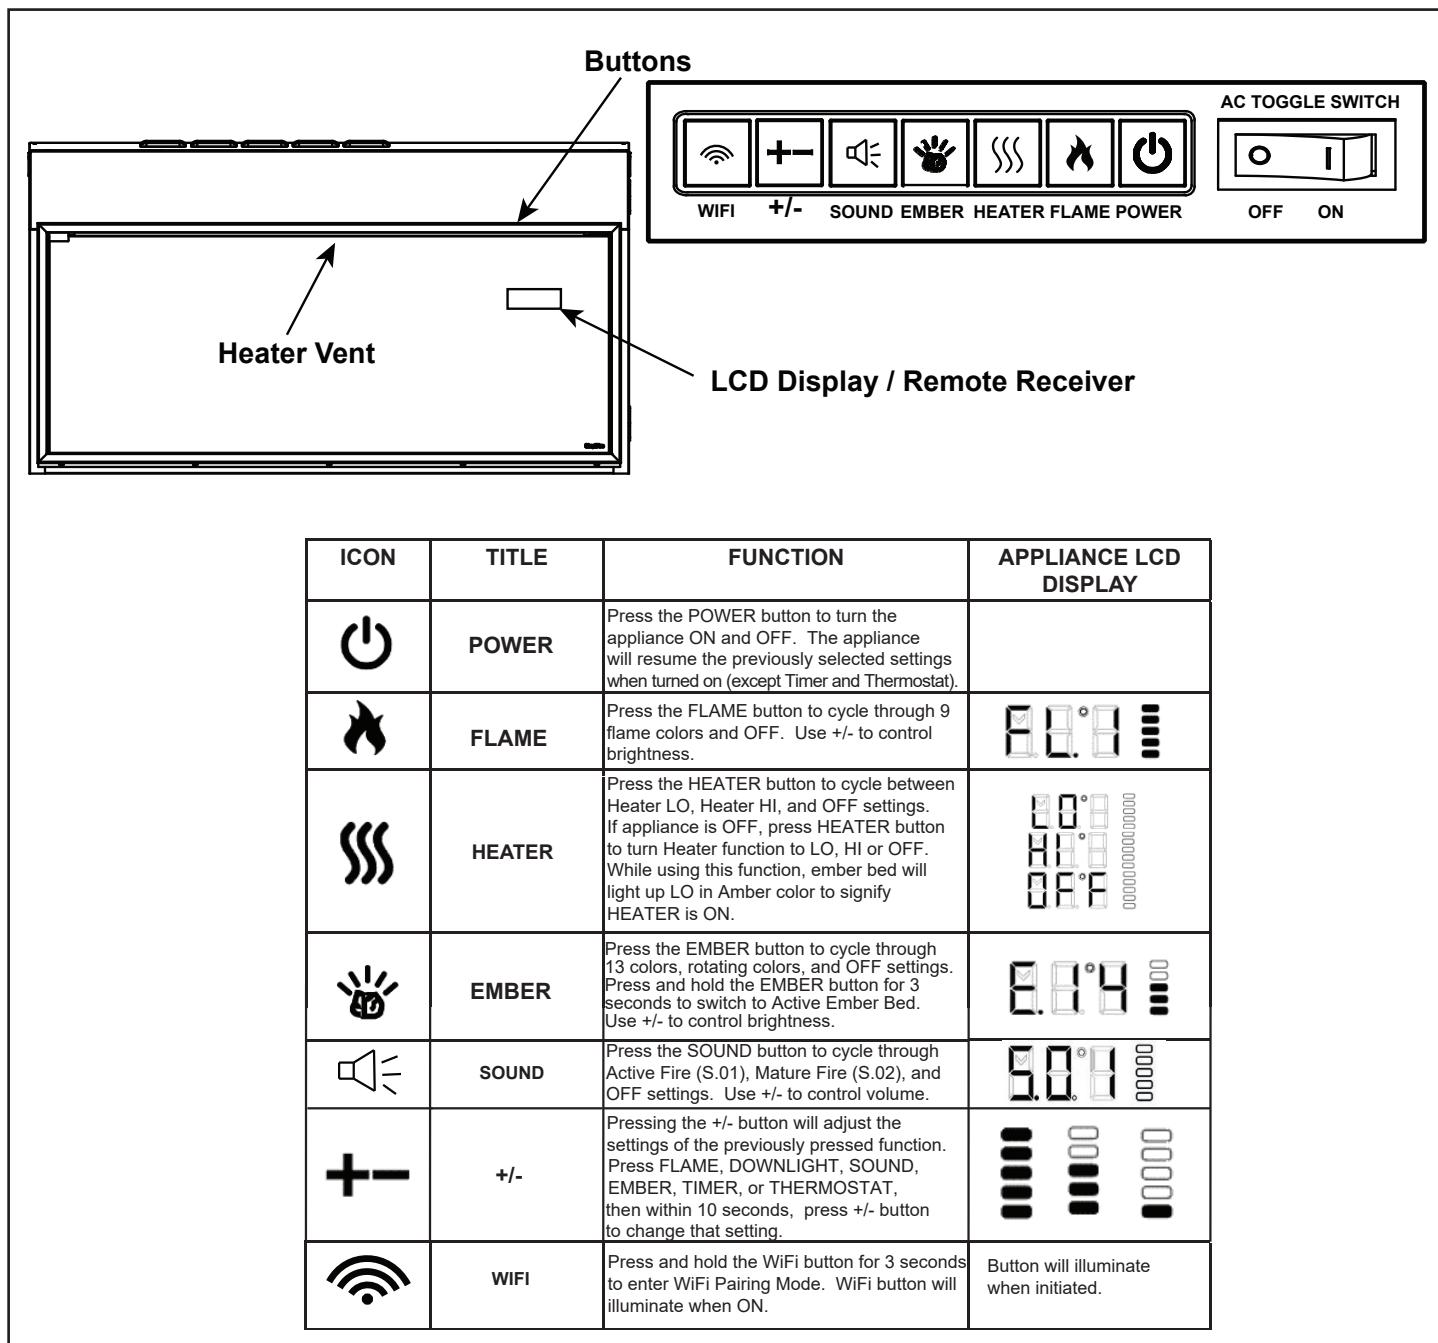

Figure 5.1 Manual Operating Switches and Indicator Lights
Before operating the appliance, ensure that the circuit breaker is turned on, that the heater input voltage/disable switch is toggled to the correct setting, and that the AC power cutoff switch on the appliance is in the "ON" position. The appliance will beep when AC power is first applied. See Figure 5.1.
- Remote uses radio frequency so does not have a specific field-of-view requirement. See Figure 5.1.